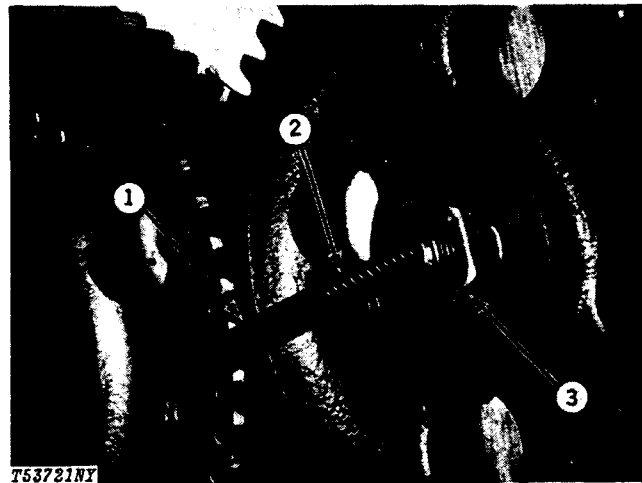

Fig. 10-Drive Shaft and Gear
Remove thrust pin (1, Fig. 10) and thrust spring (2) from shaft.